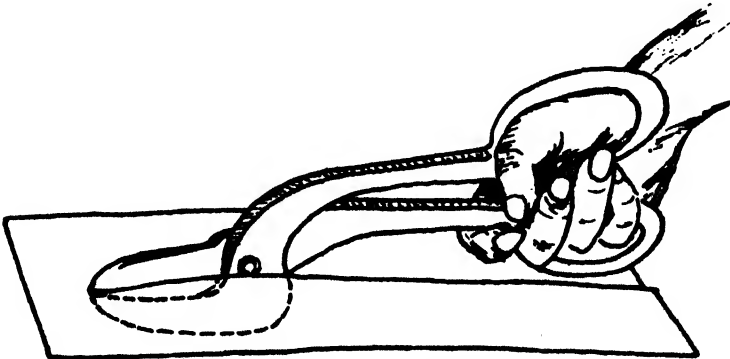

FIG. 60. "SLITTING" TIN SHEARS.
the effort (E). The effort arm (E_a) is made longer than the resistance arm (R_a), when this lever is used to gain mechanical advantage, because this arrangement makes the effort applied less than the resistance to be overcome. A pair of tin snips, Fig. 60, is a first class lever of this type.